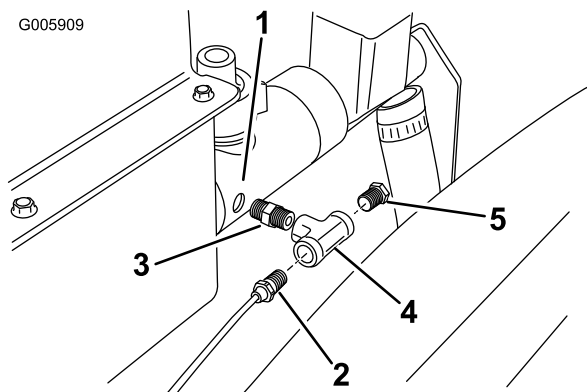

Figure 57
2. Locate the small, brass straight fitting connector, the metal tee fitting and pipe plug fitting in loose parts (Figure 57). Wrap Teflon tap around the exposed threads on all fittings.
3. Install the brass straight fitting connector to the opening in the valve manifold where the pressure tap was removed previously (Figure 57).
4. Install the metal tee fitting to the exposed end of the brass straight fitting. Use the center port on the metal tee fitting (Figure 57). Install the wrapped pipe plug fitting to the open end of the metal tee fitting that faces to the left side of the machine.
5. Wrap the threads of the existing pressure line removed previously and install it to the remaining opening in the metal tee fitting (Figure 57).